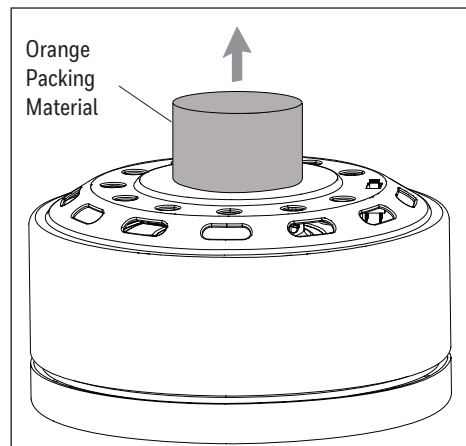

Figure 2.3
3. Discard the orange packing material from the top of the motor assembly (Figure 2.3).